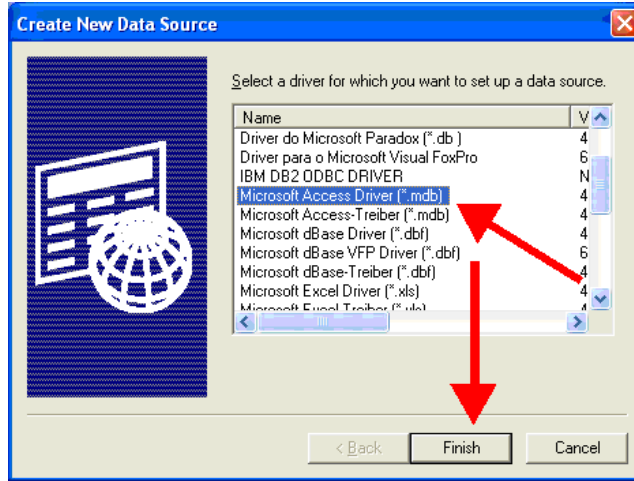

Figure 2-12
2.5.3. Select *Microsoft Access Driver* and click [**Finish**]. (Figure 2-12)